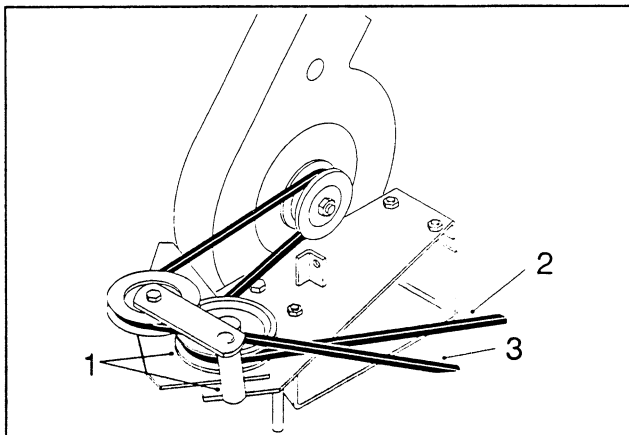

Figure 4
2. With the blower swung out in the open position, install the blower belt between the idler pulley bracket and pulley. Then loop the belt around the remaining pulleys (Fig. 4).